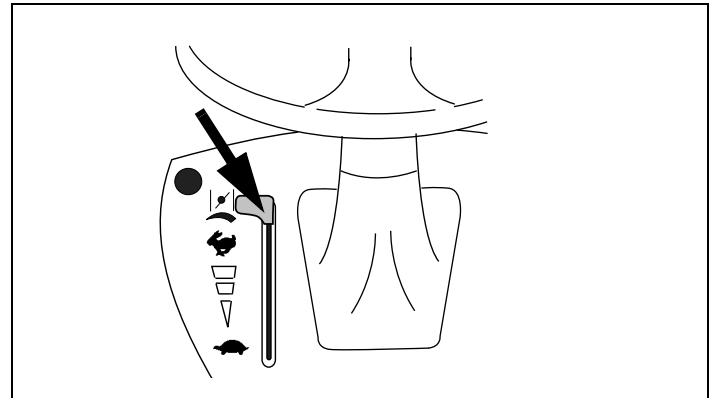

Figure 8. Combined Speed and Choke Control
2. Move combined control to “CHOKE” or “START” position (see equipment manufacturer’s instructions). See Figures 8 and 9.
If restarting a warm engine after a short shutdown, move combined control to “FAST” instead of “CHOKE” or “START” position. See Figures 8 and 9.